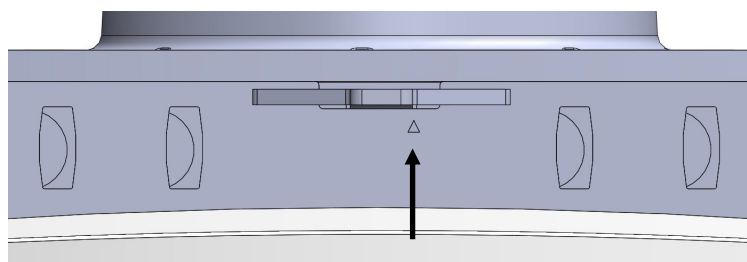

Fig. 5. Nominal Burn Position
6) On the ECB 5F Plus & ECB 5F Plus-WS stoves, a triangular mark within the front of the body is shown as the ideal position for the airwash control to achieve the nominal heat output. See fig. 5 below,